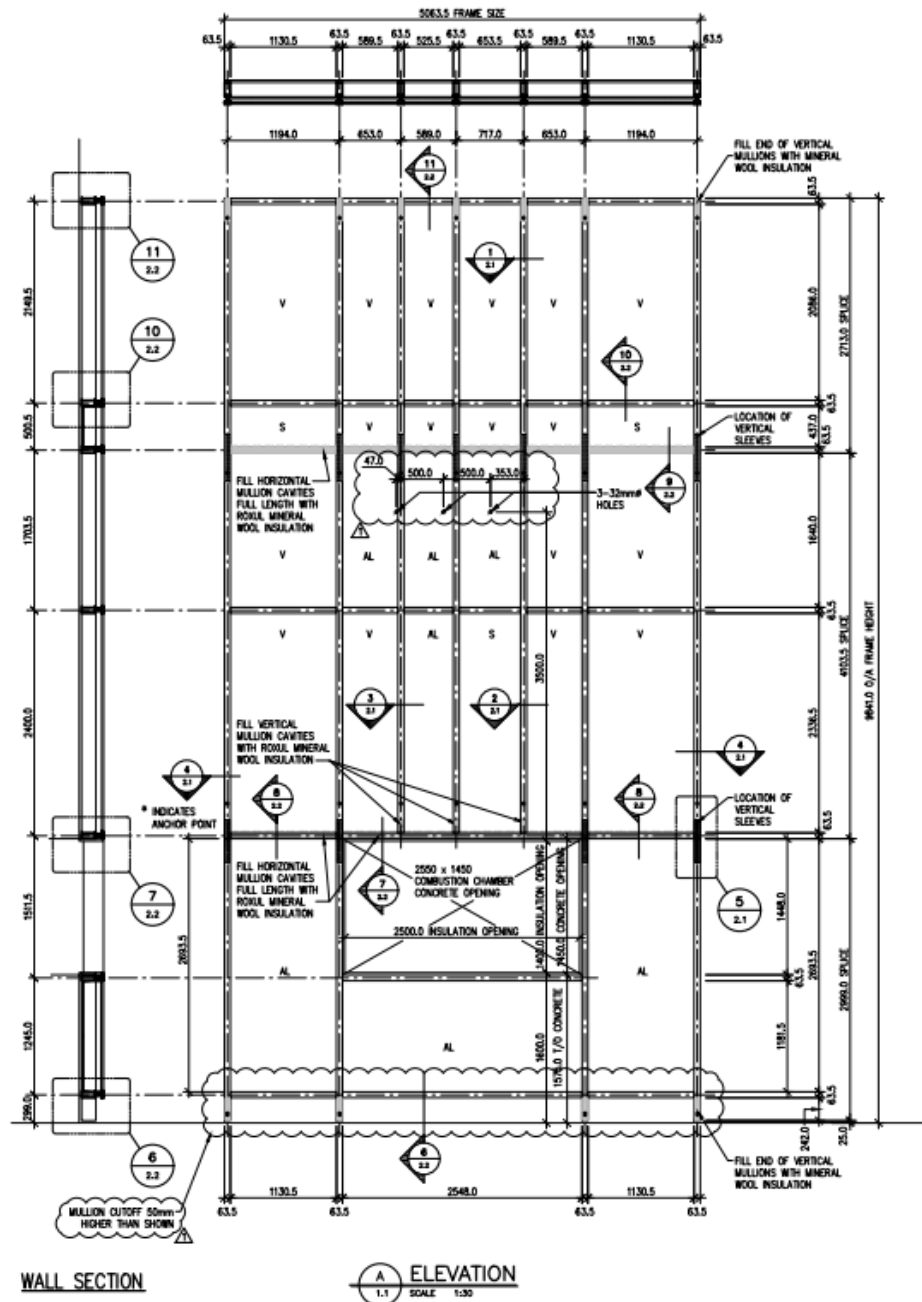
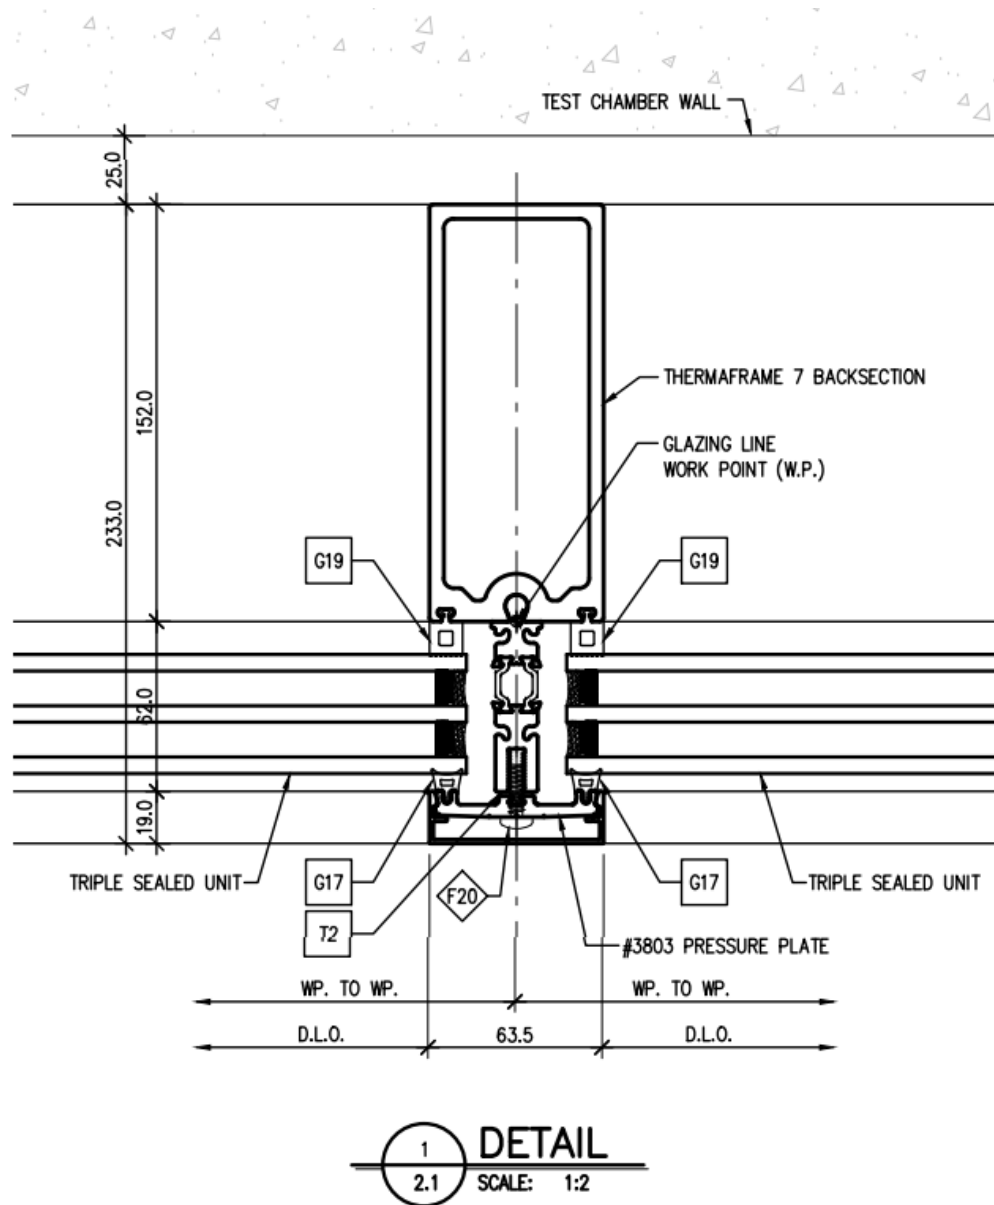

Figure 4. Overall Wall Assembly
Figure 6. $\frac{1}{2.1}$ DETAIL
3. INSTALLATION: Observe the following installation details in Figures 6 - 15, in reference to the specific elevations shown in Figure 4.